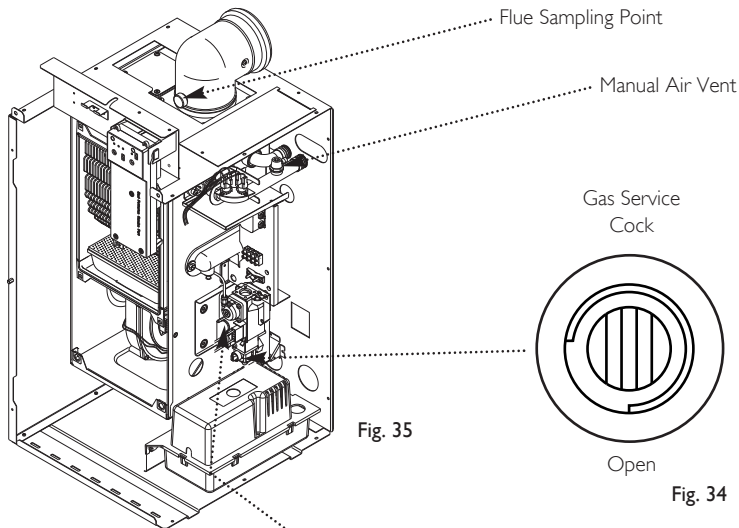

Fig. 34
7. Turn the gas service cock anticlockwise to the ON position and check for gas tightness up to the gas valve (Fig. 34). Turn the power to the boiler ON.